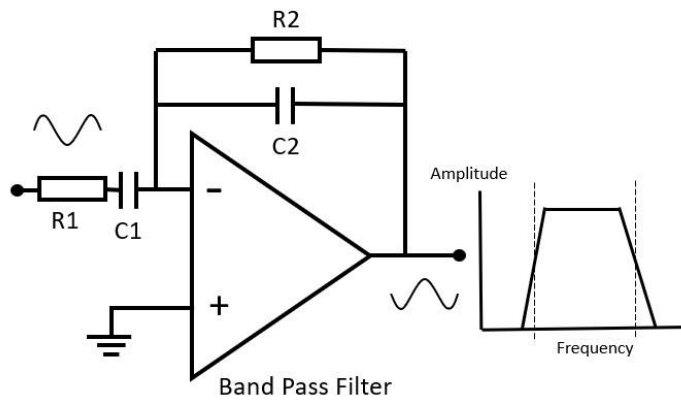

Figure 11: Band Pass Filter.
10. The **Band pass filter** is a unity gain amplifier.  $R_1$  and  $C_1$  determine the high pass cut off while  $R_2$  and  $C_2$  determine the low pass cut off (Figure 11).